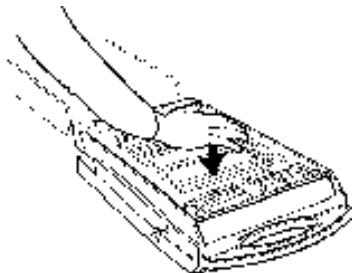

Figure 4-11. Compress the notes so that there are no single notes protruding from the pile.
1. Refer to Figure 4-11. Level the note pile. Compress the note pile slightly by hand. Single notes must not protrude from the bundle. Make sure the bundle leans evenly against the note plate.